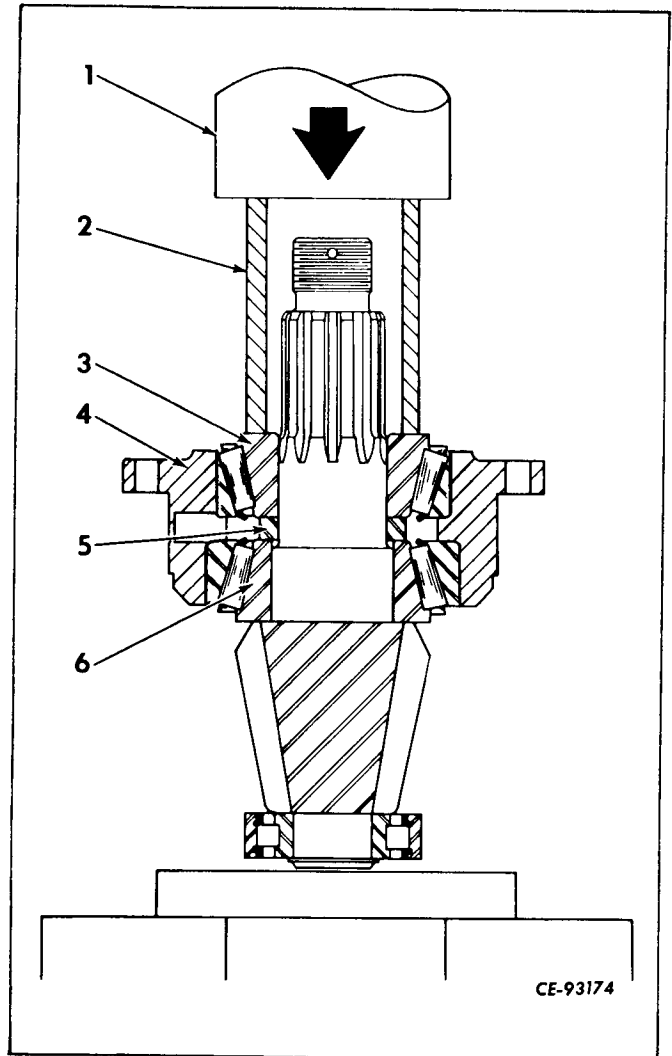

Figure 6-39
Install spacer (5, Fig. 6-39) on pinion shaft and place entire assembly in bearing cage (4).